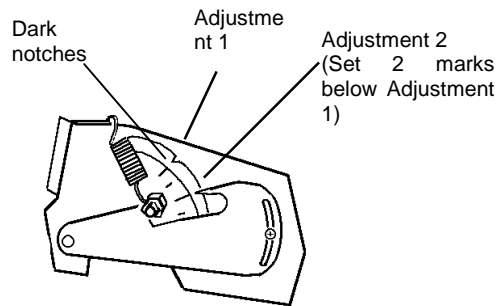

Figure 1. Fuser Adjustment Plate with Alignment Notches
2. (Figure 1): Locate the Fuser Flapper Adjustment Plates. They are located in the area that was previously covered by the Side Fuser Covers.